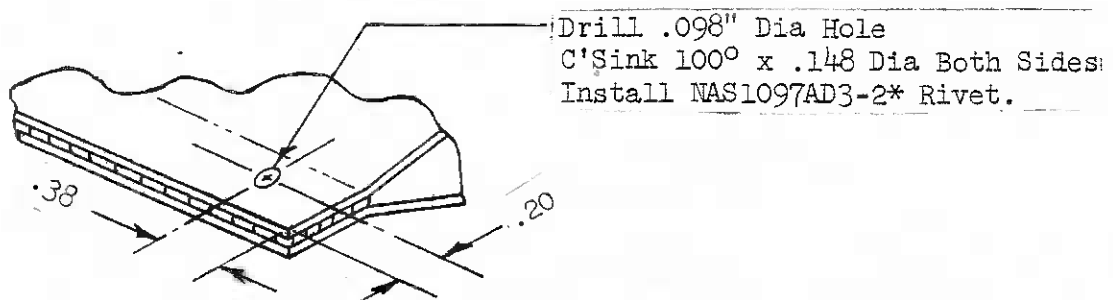

Figure 2. Rivet Installation
4. If the results of inspection steps "2" and "3" are negative, install two (2) NAS1097-AD3-2 Rivets in each affected flap as shown in Figure 2. If the results of either "2" or "3" are positive, order Service Kit No. SK-125 and make the repairs accordingly.